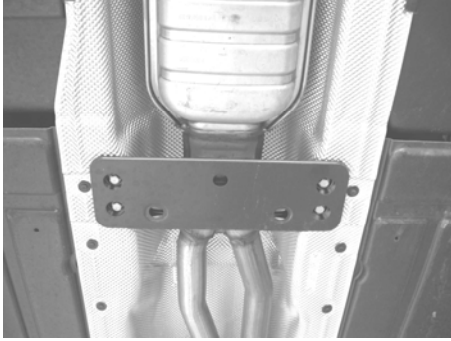

Figure 3
3. Unbolt and remove the center support bracket shown in figure 3 from the vehicle.